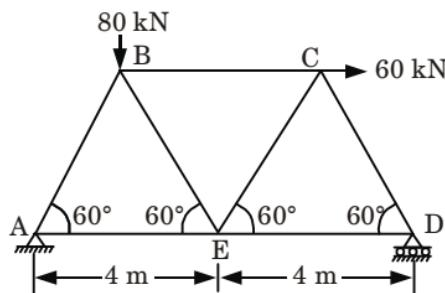

Fig. 6.
5. a. Analyze the truss shown in Fig. 6 by the method of tension coefficient and determine the forces in all the members.